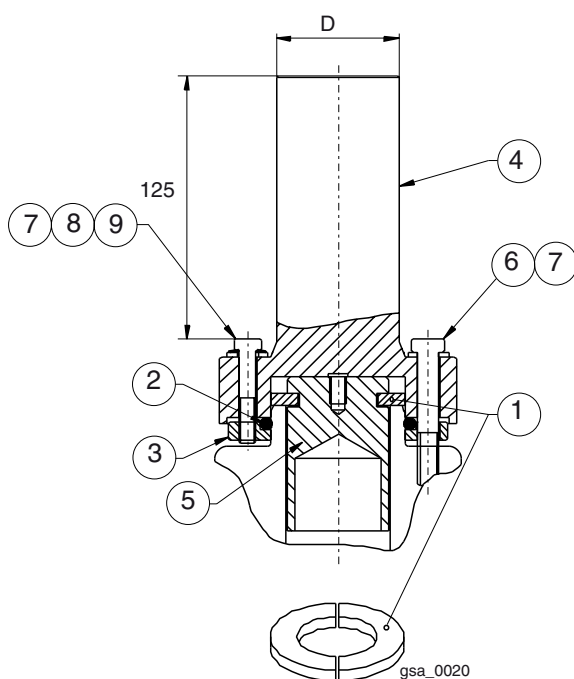

Fig. 4a. Outer terminal assembly.
6. Place the divided ring around the slot in the inner terminal according to Fig. 4a.